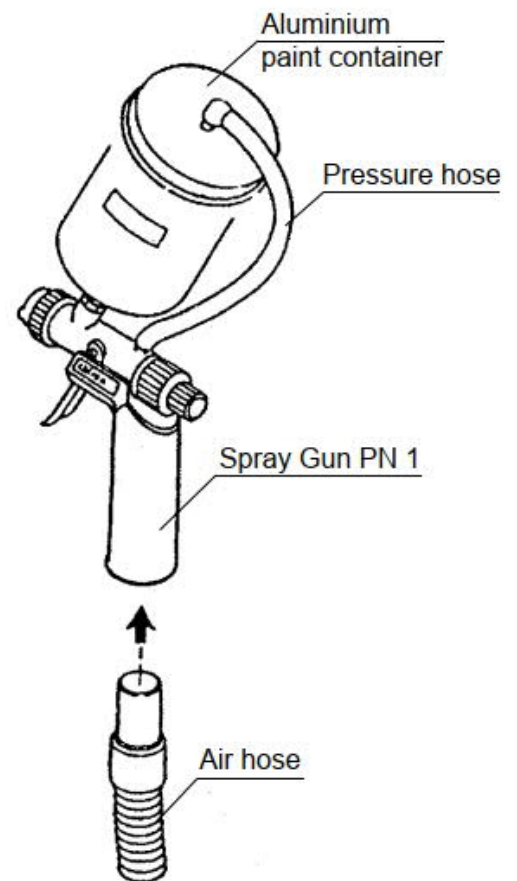

Figure 1
- Insert the air hose of the **ABAC** low-pressure blower into the insulated handle of the spray gun (see Fig.1).